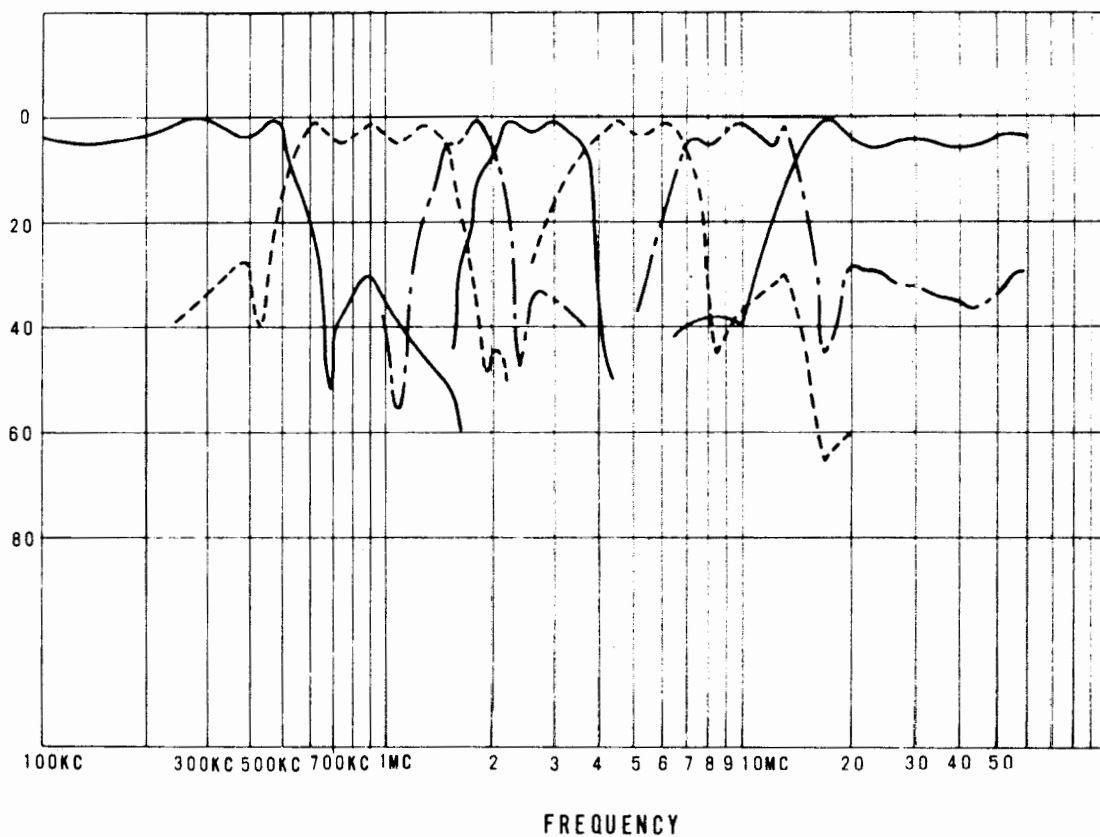

Figure 5-3 Electrical Filter Assembly AN/SRA-12
q. ISOLATION. - See Figures 5-3 and 5-4.
(1) Filter to filter (direct outputs). 40 dB maximum.
(2) Direct output to associated outputs. 6 dB nominal.